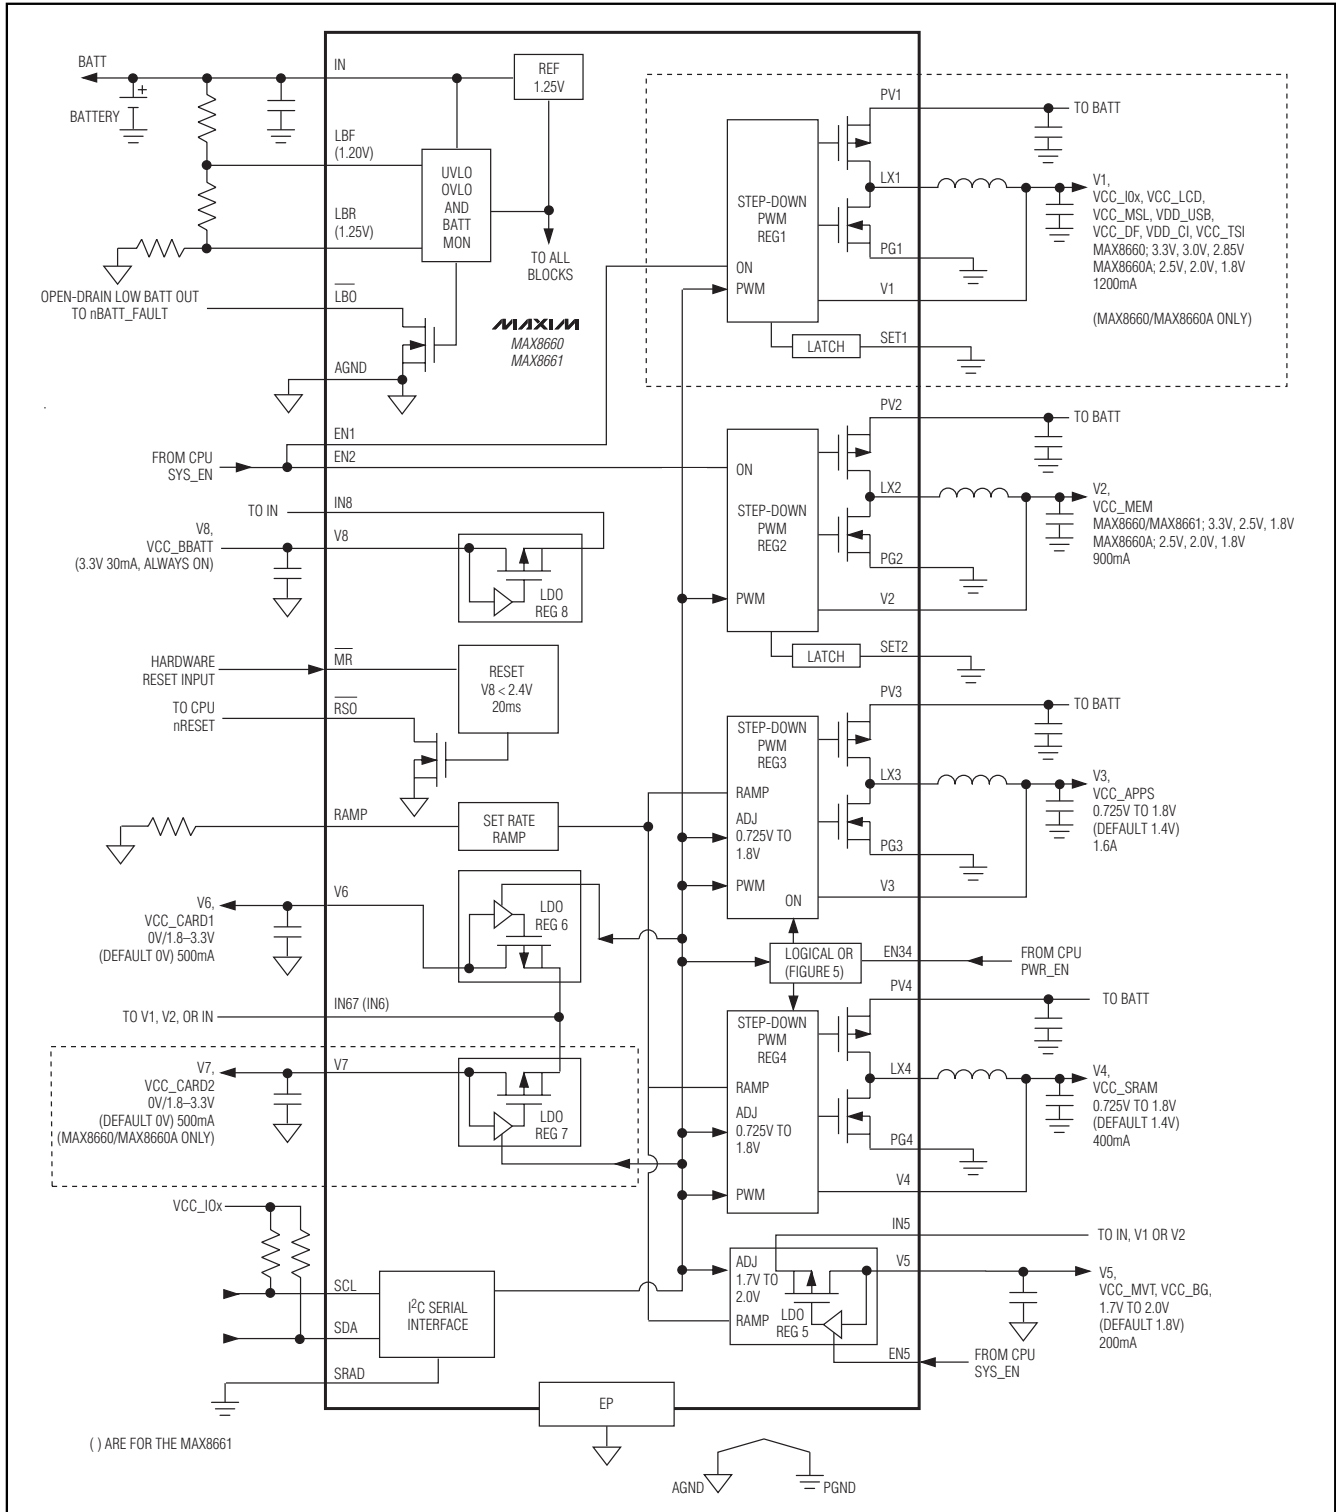

Figure 2. Functional Diagram
As shown in Figure 2, the MAX8660 integrates eight high-performance, low-operating-current power supplies. REG1–REG4 are step-down DC-DC converters, and REG5–REG8 are linear regulators. Other functions include low-battery detection (LBO), a reset output (RSO), a manual reset input (MR), and a 2-wire I²C serial interface. The MAX8661 functions the same as the MAX8660, but does not have the REG1 step-down regulator and the REG7 linear regulator.